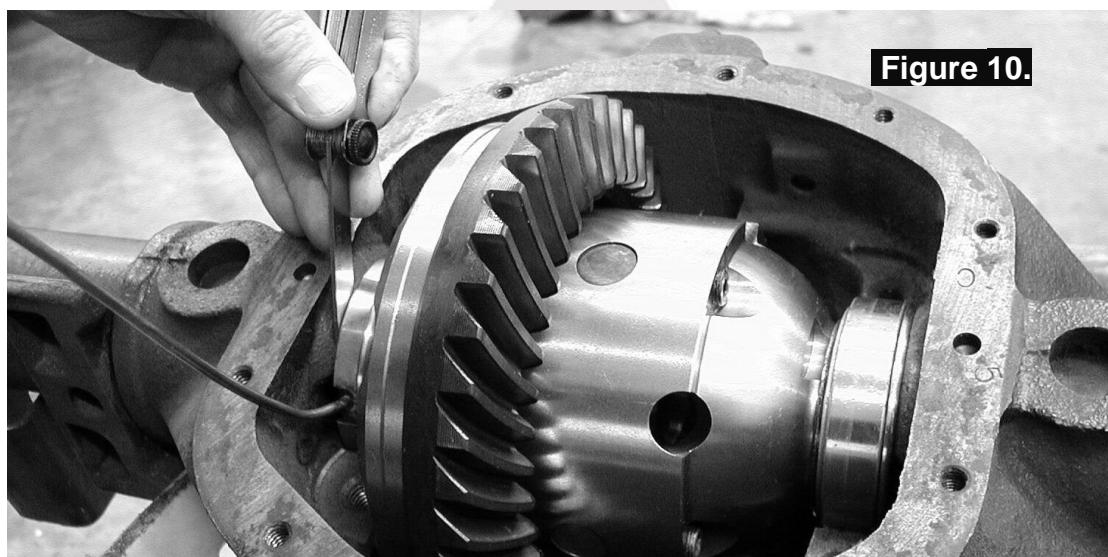

Figure 10.
- Push (or lightly pry) the *Air Locker* hard across to the right-hand side, and measure the maximum gap (also called the 'end float') between the outside of the seal housing and the inside face of the axle housing with an automotive feeler gauge. (Fig.10.)